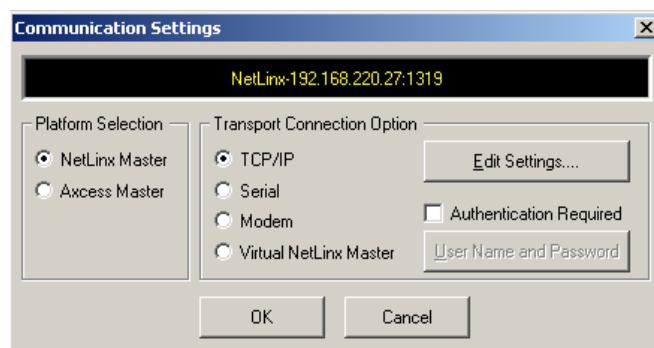

FIG. 26 NetLinx Studio - Communication Settings dialog
2. Click the **Communications Settings** button to open the *Communications Settings* dialog (FIG. 26).